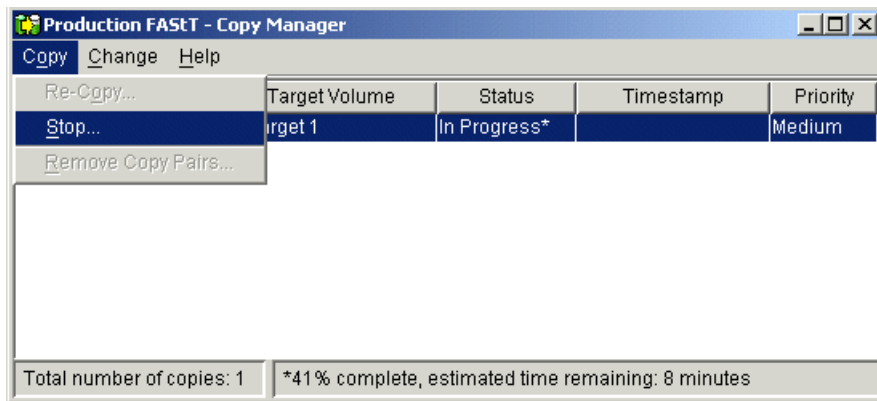

Figure 9-22 Copy Manager - Stop Copy menu
3. Select either the **Copy -> Stop** pull-down menu option, or **Stop Copy** from the right-mouse pop-up menu (Figure 9-22).